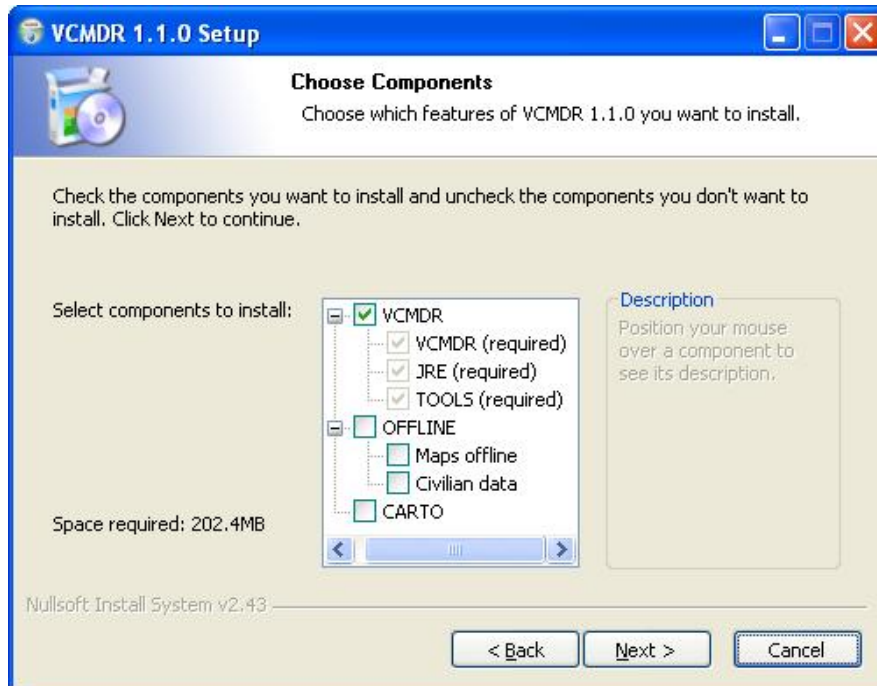

Figure 100 : VCMDR software installation window - Select packages
- If no release already installed, the "Installation Options" window is displayed to select the packages as shown as Figure 100.
- If no release is selected and click "**Next**", the "Installation Options" window is displayed to select the package as shown as Figure 100.